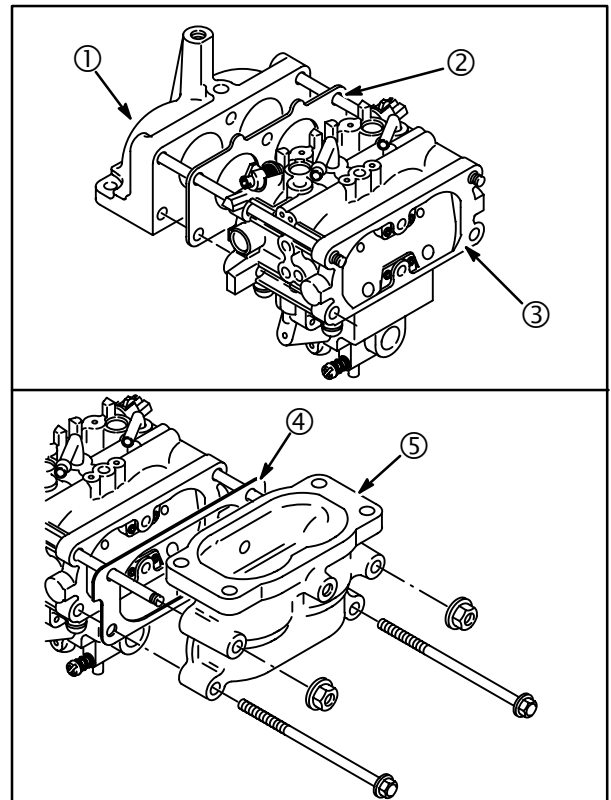

Fig. 32
1. Assemble intake elbow (1) and air cleaner elbow (5) to carburetor (3) with new gaskets (2, 4) **Fig. 32**.
2. Install air cleaner elbow gasket (4) with adhesive side toward air cleaner elbow and arrow up.